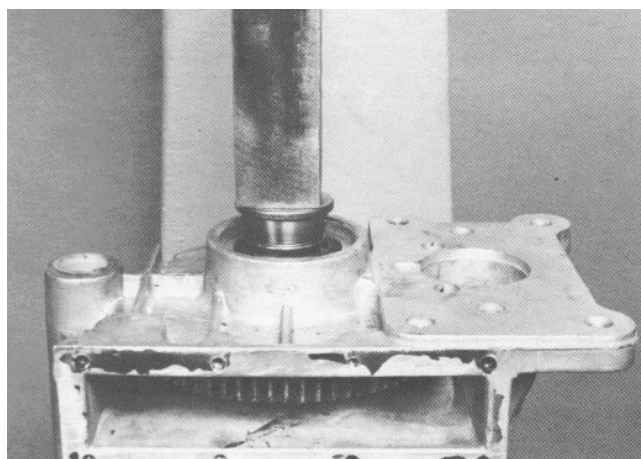

Figure 43
9. With a hollow press sleeve of proper diameter, press on the outer bearing cone race until the drive pinion seats in the carrier and a slight drag is noticed when the gear is rotated by hand (2-13 in.-lb. torque to rotate) (Fig. 43). If the drag is too severe, tap the pinion shaft with a soft mallet until the drag is reduced.